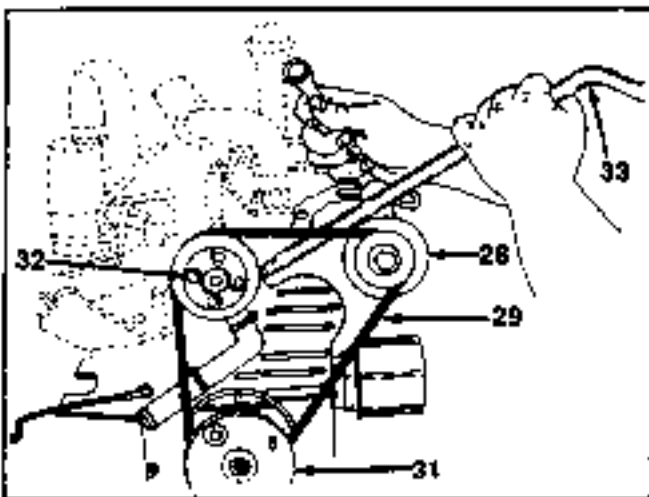

FIGURE 20.
18. With a pry bar and wrench, loosen the hex bolt at alternator bracket. See figure 20. Remove the alternator bell